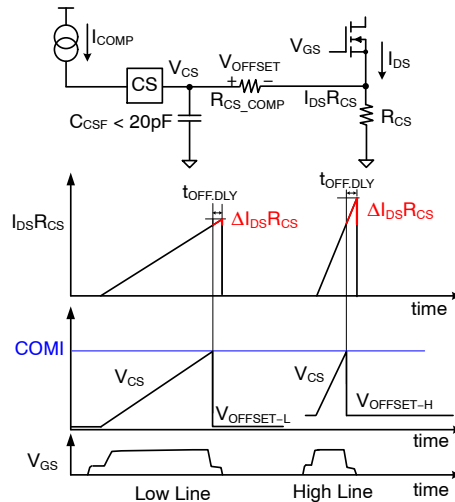
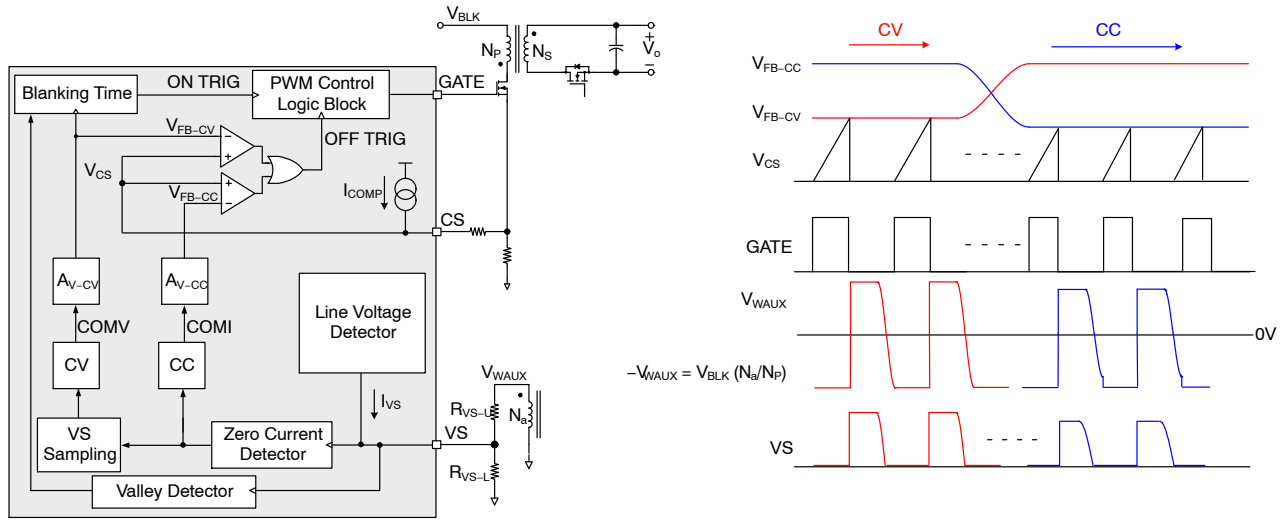

Figure 28. Line Voltage Compensation
Figure 29. Simplified PSR Flyback Converter Circuit
Line information is obtained through the line voltage detector as shown in Figure 29. I_{COMP} is an internal current source which is proportional to line voltage. The line compensation gain is programmed by using CS pin series resistor, R_{CS_COMP} depending on the power FET turn-off delay ($t_{OFF.DLY}$). I_{COMP} creates a voltage drop (V_{OFFSET}) across R_{CS_COMP} . This line compensation offset is proportional to the DC link capacitor voltage (V_{BLK}) and turn-off delay ($t_{OFF.DLY}$). Figure 28 demonstrates the effect of the line compensation.
Figure 29 shows a simplified CV / CC PWM control circuit of the FAN1080. The Constant Voltage (CV) regulation is implemented internally with primary-side control. The output signal of compensation (COMV) is scaled down by attenuator A_{V-CV} to generate a V_{FB-CV} signal. This V_{FB-CV} signal is applied to the PWM comparator to determine the duty cycle.
These two control signals, V_{FB-CV} and V_{FB-CC} are compared with a voltage of current sense (V_{CS}) by two PWM comparators to determine the duty cycle. Figure 29 illustrates the outputs of two comparators combined with an OR gate, to determine the power FET turn-off instant. Either of V_{FB-CV} or V_{FB-CC} , the lower signal determines the duty cycle. During CV regulation, V_{FB-CV} determines the duty cycle while V_{FB-CC} is saturated to HIGH level. During CC regulation, V_{FB-CC} determines the duty cycle while V_{FB-CV} is saturated to HIGH level.